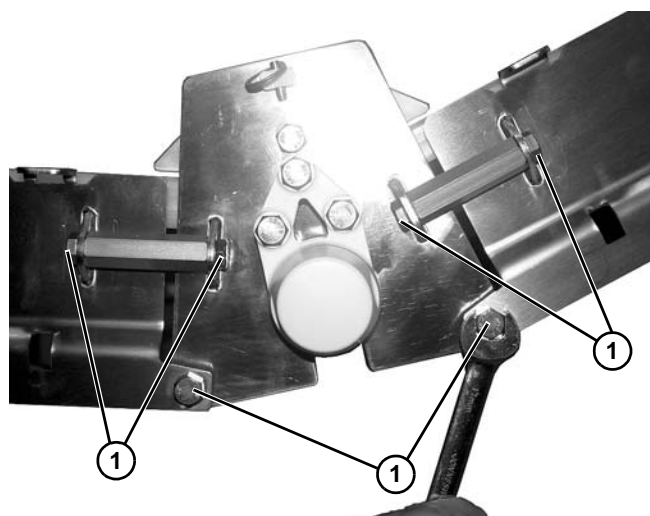

Figure 13
3. Tighten all screws (**Figure 13, item 1**) to 28-32 Nm (20-24 ft-lbs).